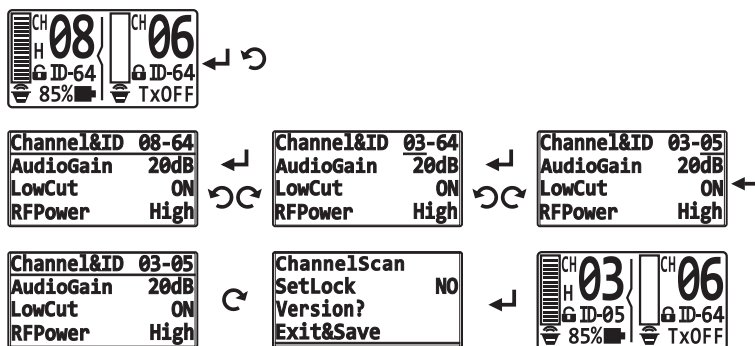

Fig. 19
- (A) Press once to activate parameter setup.
- (B) Turn and select a status bar. Press once to activate parameter setting.
- (C) Turn right or left to one of the programmed parameter value.
- (D) To save changes, turn and locate Exit & Save status bar, press once to save and return to home screen.
3. Setting Channel & ID, see Fig. 19: